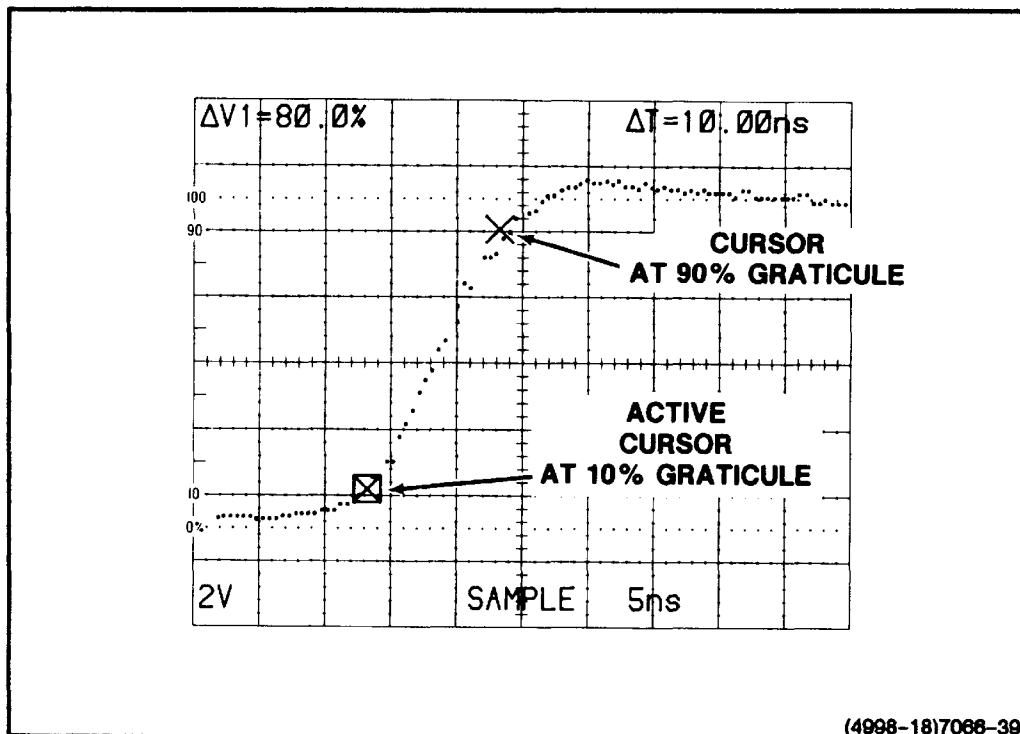

Figure 6-14. Rise time, cursor method.
9. Push in the CURSORS knob (SELECT C1/C2) to select the other cursor, and use the CURSORS control to move the active cursor up the waveform's leading edge until the ΔV readout is 80% (see Figure 6-14).